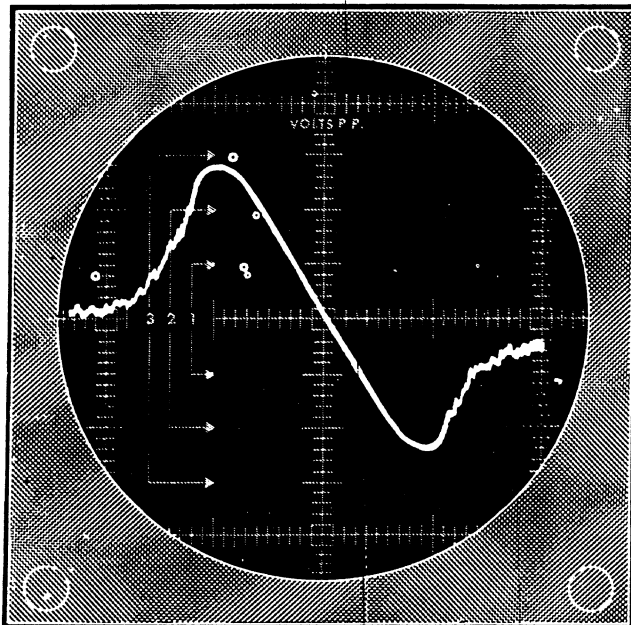

Figure 10
- () Turn on the tuner. A response curve similar to Figure 10 should appear on the oscilloscope.